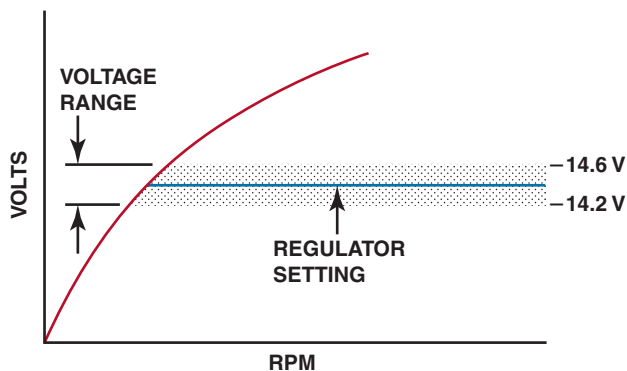

FIGURE 19-17 Typical voltage regulator range.
- The voltage regulator simply opens the field circuit if the voltage reaches a predetermined level, then closes the field circuit again as necessary to maintain the correct charging voltage. ● **SEE FIGURE 19-17.**